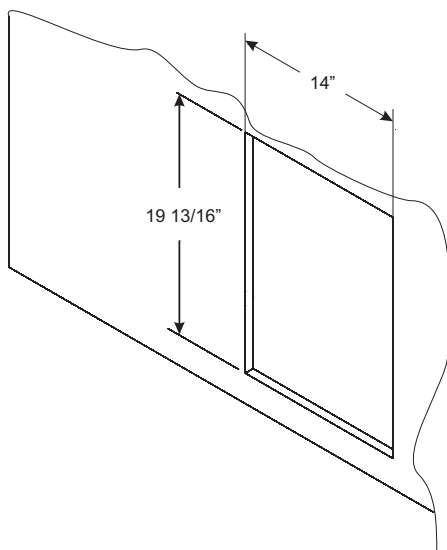

Figure 2
2. Make sure BDA Single Door opening dimensions match those in Figure 2.